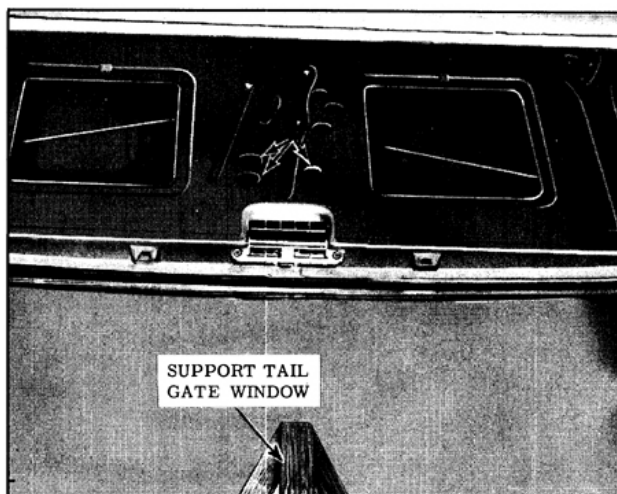

Fig. 16-214 Outside Handle Removal
2. Detach tailgate inner panel water deflector sufficiently to gain access to access holes, shown at A. (Fig. 16-214)
2. Detach tailgate inner panel water deflector sufficiently to gain access to access holes A for removal of assembly attaching nuts. (Fig. 16-214)